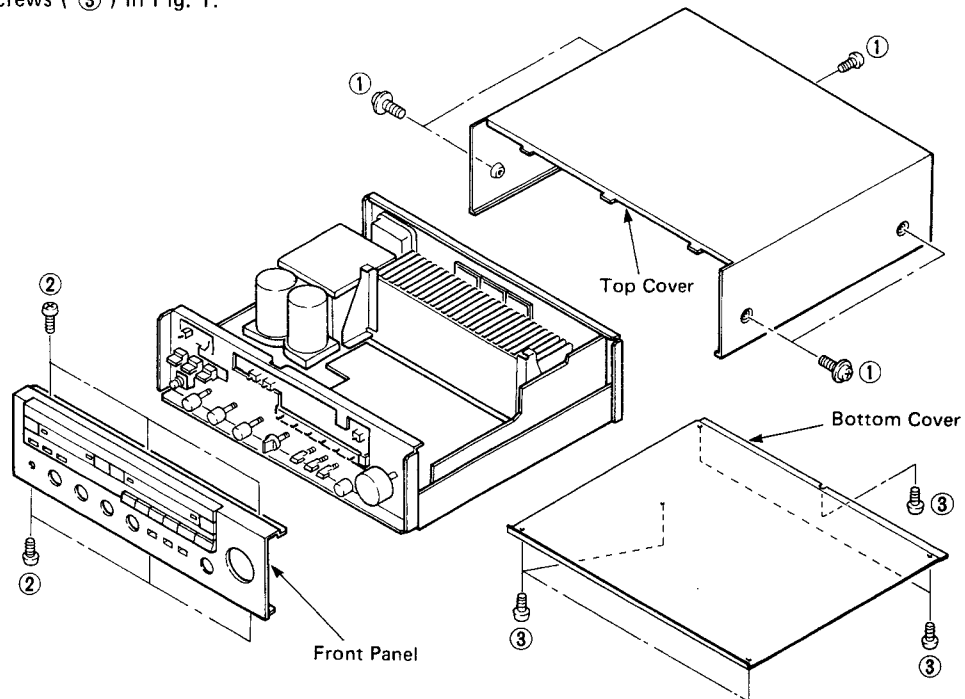

Fig. 1
Remove 5 screws ( ① ) in Fig. 1, and slide the Top Cover back.
Remove 6 screws ( ② ) in Fig. 1, and pull the Front Panel forward.
Remove 6 screws ( ③ ) in Fig. 1.